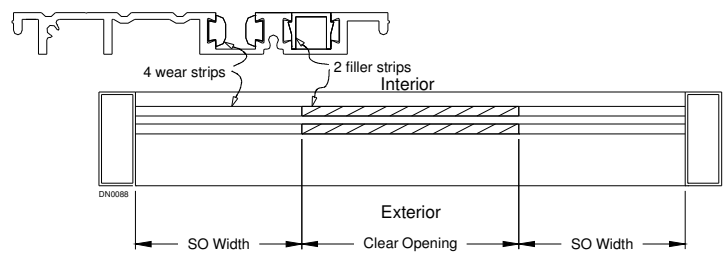
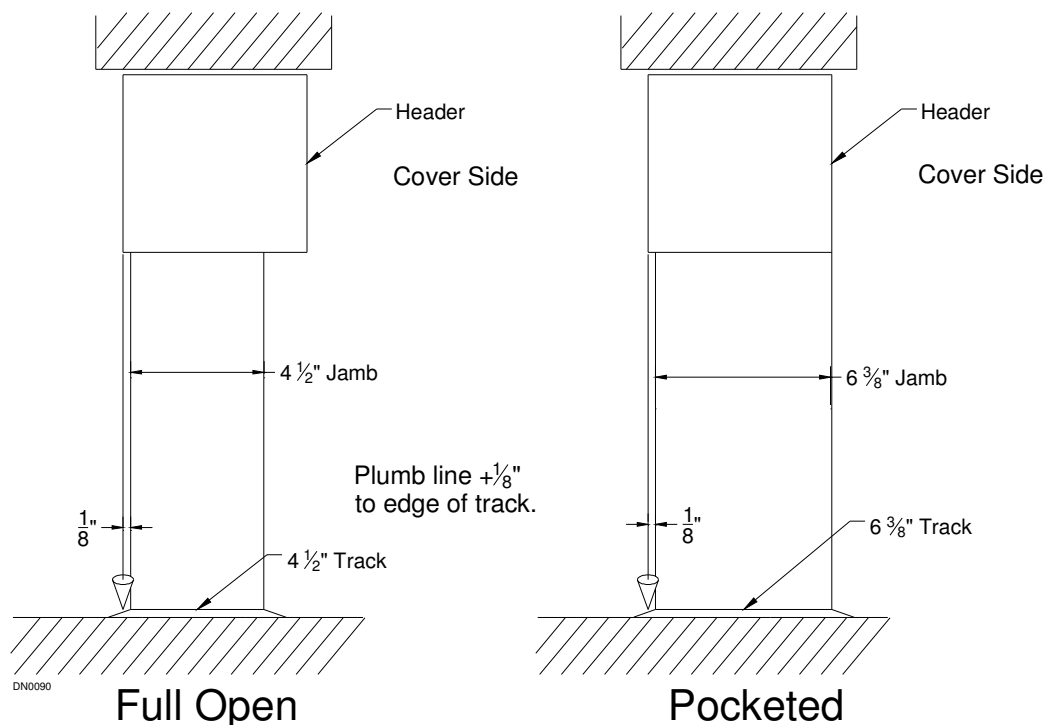

Figure 9
Figure 10
NOTE: Install a filler cap in clear opening when extending floor track across entire door opening. This will be factory installed when full length track is specified at ordering (See Figure 10). Track has filler strips in door opening. Filler strips removed under SO panel (See Figure 9).
3. Locate track flush with chalk line. Check floor track location with plumb bob from header. It should be $\frac{1}{8}$ " inset from header (See Figure 10).